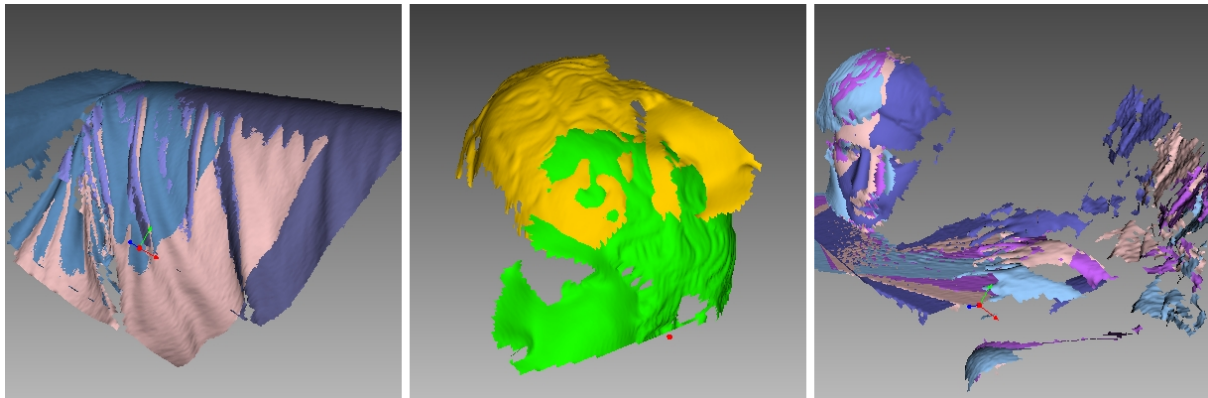

Figure 8.4: Possible scan errors.
- Misaligned frames (see Figure 8.4, left)—may occur because of small size, an insufficient number of geometrical features on the object or an insufficient number of polygons in a frame.
- Misaligned parts (see Figure 8.4, middle)—occurs when the real-time alignment algorithm incorrectly determines the position of the new frame relative to previous
- Unwanted objects in the frame (see Figure 8.4, right).